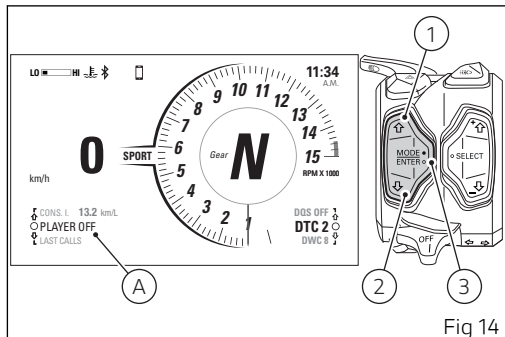

Fig 14
If the music player control is set to "OFF" (Fig 14), press the ENTER button (3) to activate it. With the music player control active, the display shows the title of the track currently being played on the connected smartphone (B), together with the available controls (C), and the "EXIT" indication preceded by the black arrow facing downwards (D).
The function is then shown as “PLAYER OFF” (Fig 14).